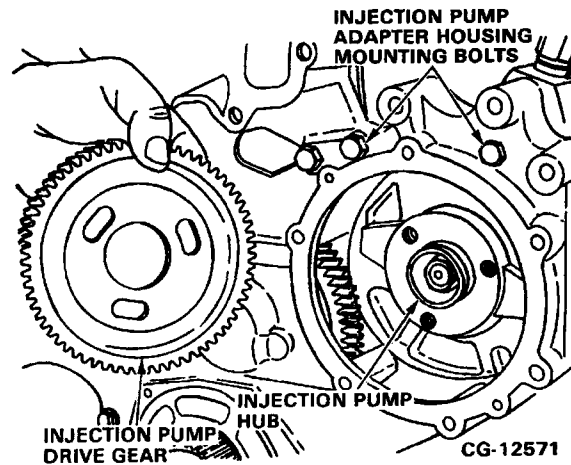

Figure 11.113. Remove the Injection Pump Drive Gear
12. Remove the injection pump drive gear from the pump hub. Refer to Figure 11.113.
13. Remove the two adapter housing bolts which go through the front cover. Refer to Figure 11.113.
2. Tighten the adapter housing bolts (depicted in Figures 11.113 and 11.114) to the specified special torque (see "SPECIFICATIONS").